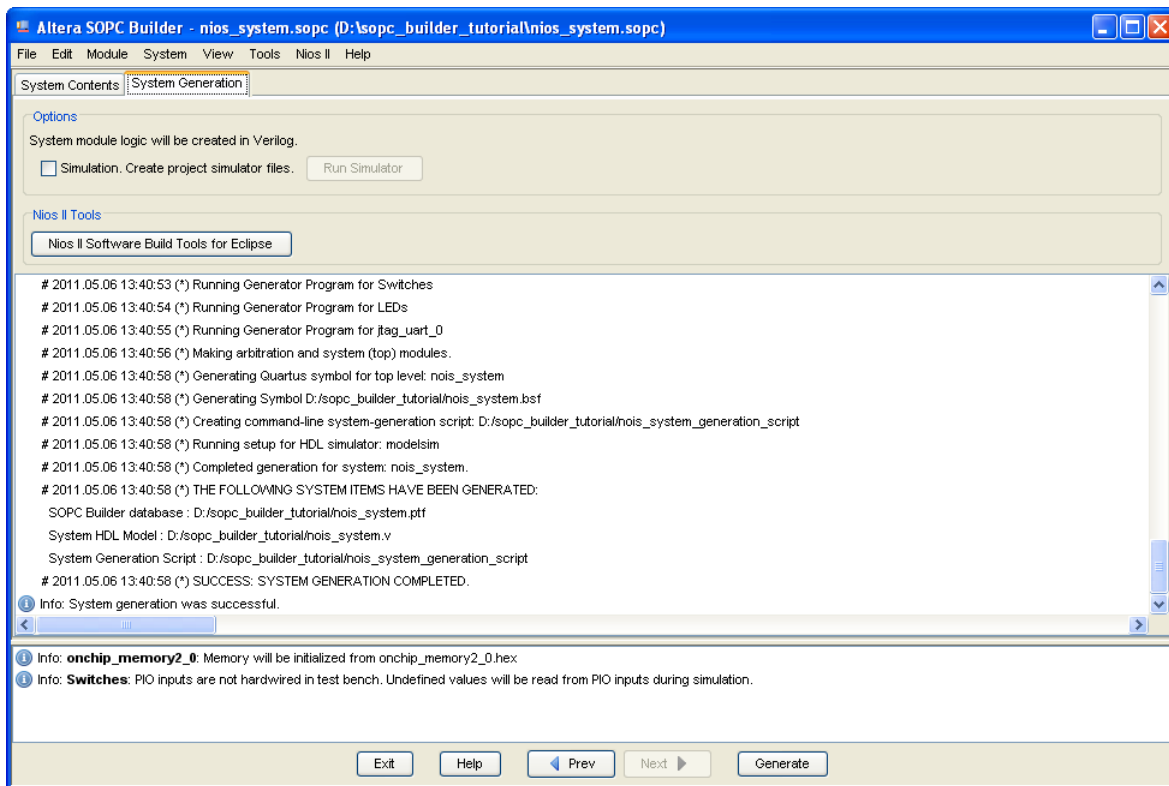

Figure 16. Generation of the system.
- Having specified all components needed to implement the desired system, it can now be generated. Select the System Generation tab, which leads to the window in Figure 16. Turn off Simulation - Create project simulator files, because in this tutorial we will not deal with the simulation of hardware. Click Generate on the bottom of the SOPC Builder window. The SOPC Builder may prompt you to save changes to .sopc file. Click Save to proceed. The generation process produces the messages displayed in the figure. When the message "SUCCESS: SYSTEM GENERATION COMPLETED" appears, click Exit to return to the main Quartus II window.